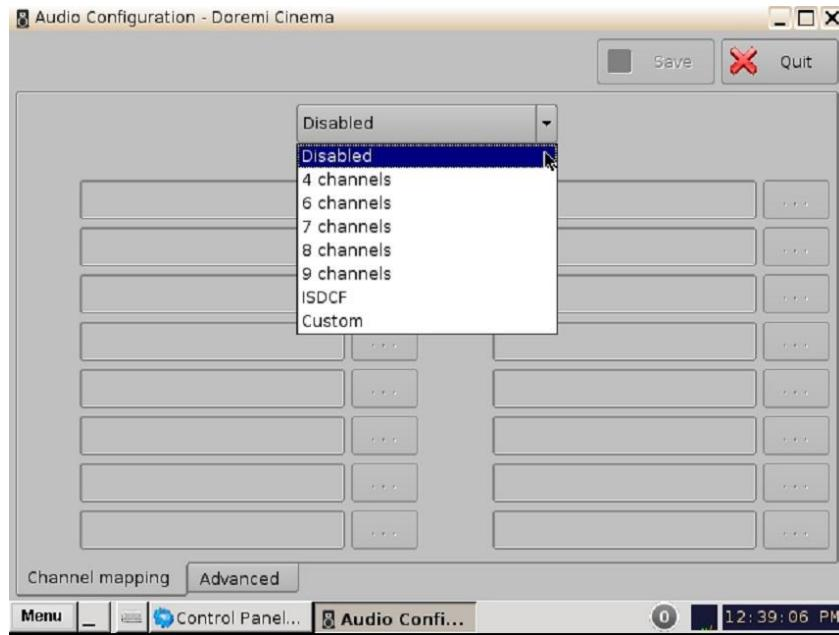

Figure 42: Disabled Configuration
- Disabled: This setting is the default and as such cannot be mapped (Figure 42). The Disabled mapping configuration will perform pass-through mapping, meaning channel number "X" of the CPL audio track will be routed to audio output number "X" (variable) of the server. "X" being a number between 1 and 16. When the configuration is grayed-out, the user cannot change the configuration.